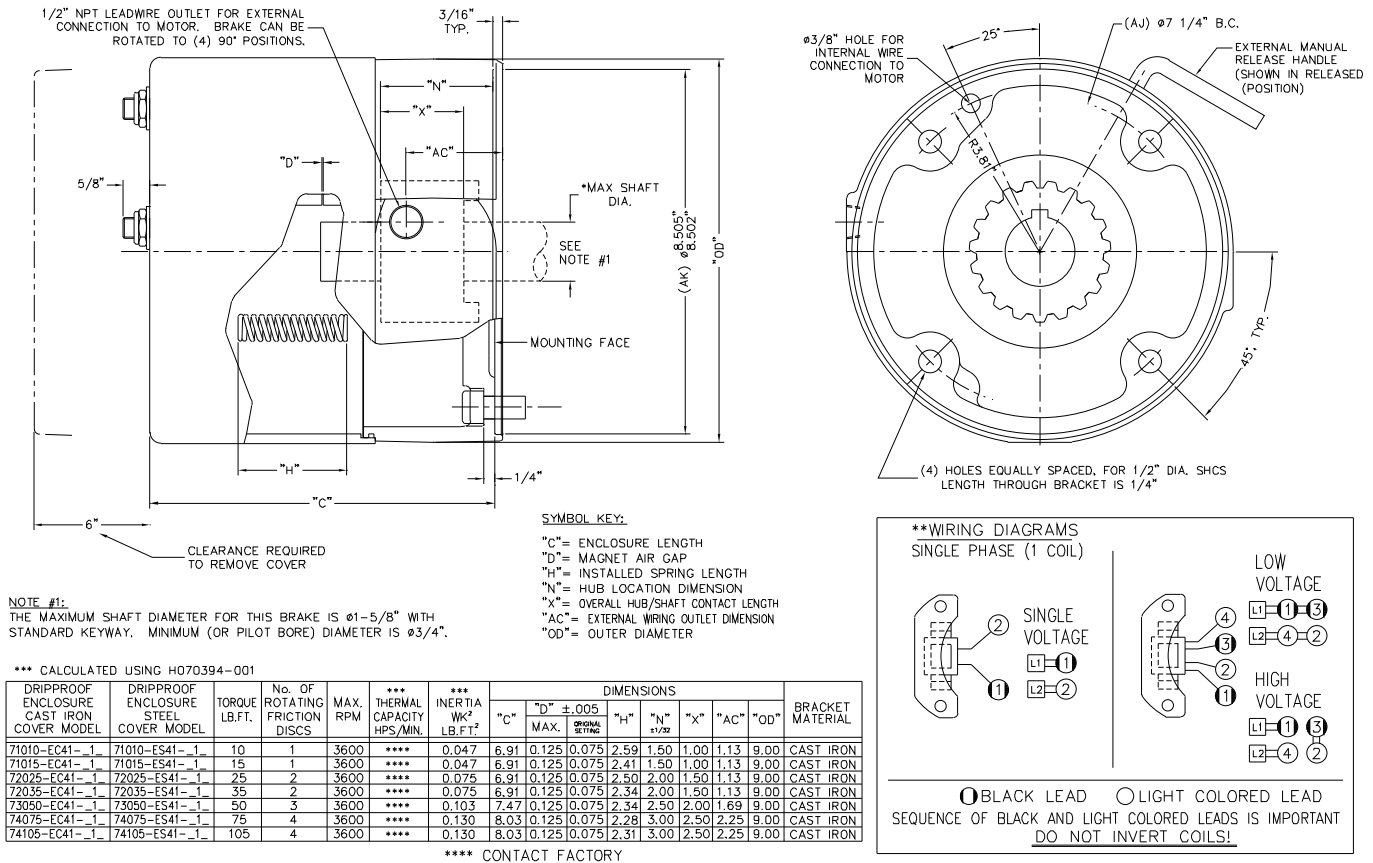

Figure 1 - Brake Outline
(See Figures 1, & 2, Table 1)
1. Remove hub (99) from brake and position on motor shaft with key according to dimension "N" per figure 1. Stamped part number on hub should face away from motor. Tighten hub set screws with 13 lb.ft. torque.
2. Remove temporary cover nut and cover (67). Set cover aside. Discard temporary nut.
4. Bolt brake to motor "C" face with four socket head cap screws. See Figure 1 to help in determining proper bolt length. Final bolt thread pitch, length and mounting torque is dependent on the material and depth of the threaded holes in the mounting face.
5. Connect coil leads per appropriate wiring diagram in Figure 1 and replace cover (67).
6. Use provided nylon locking nuts (71) to secure cover (67).